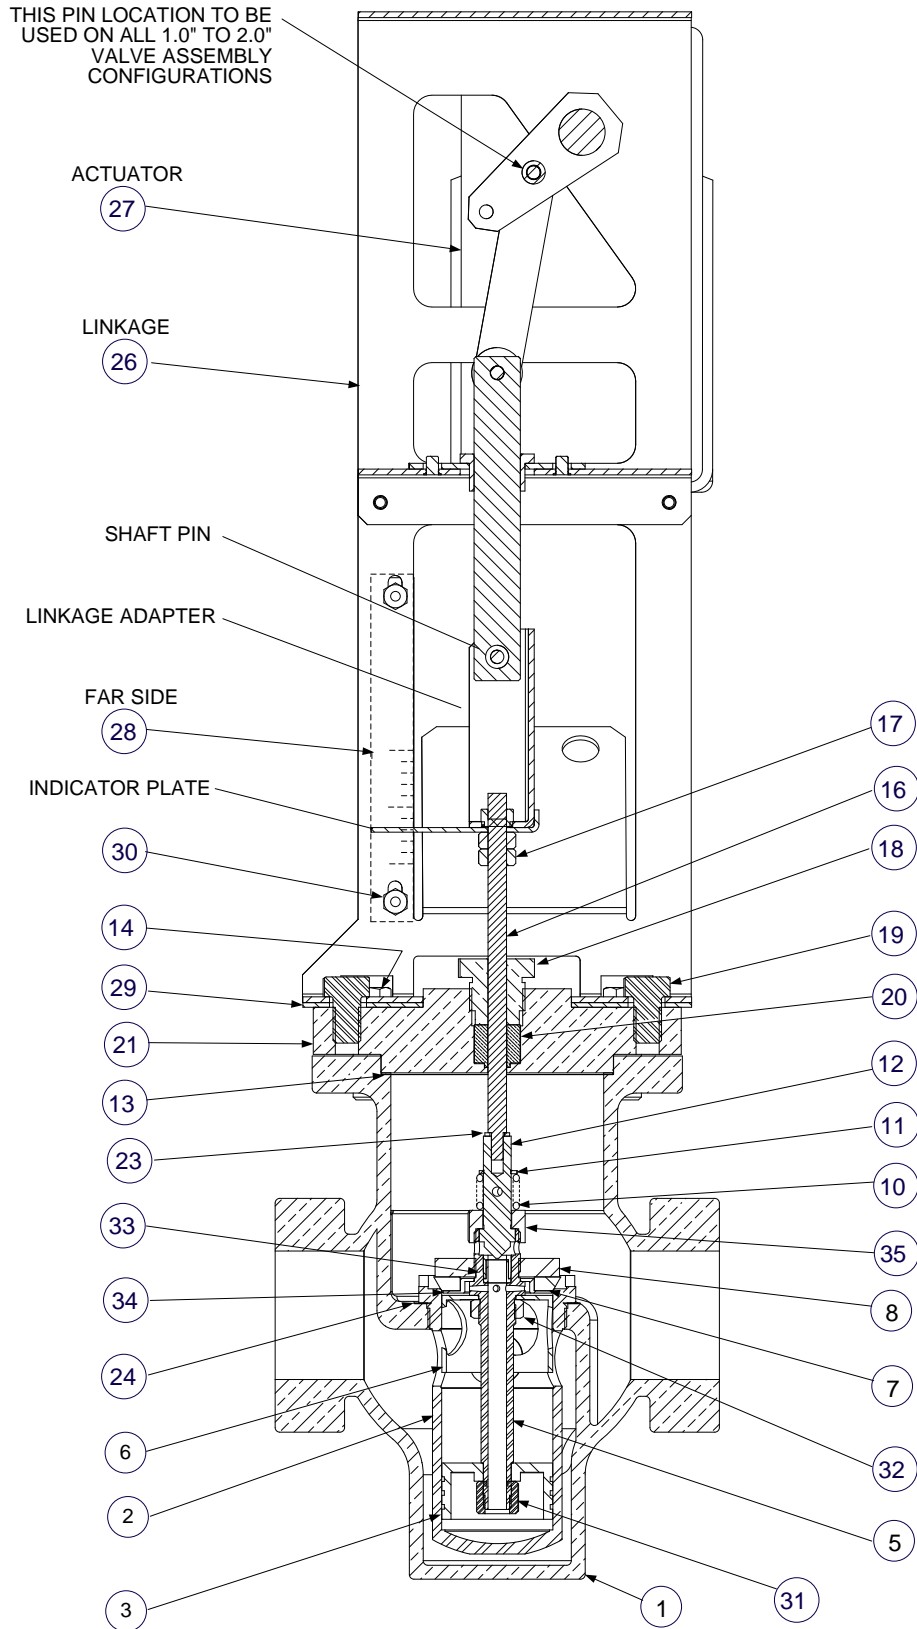
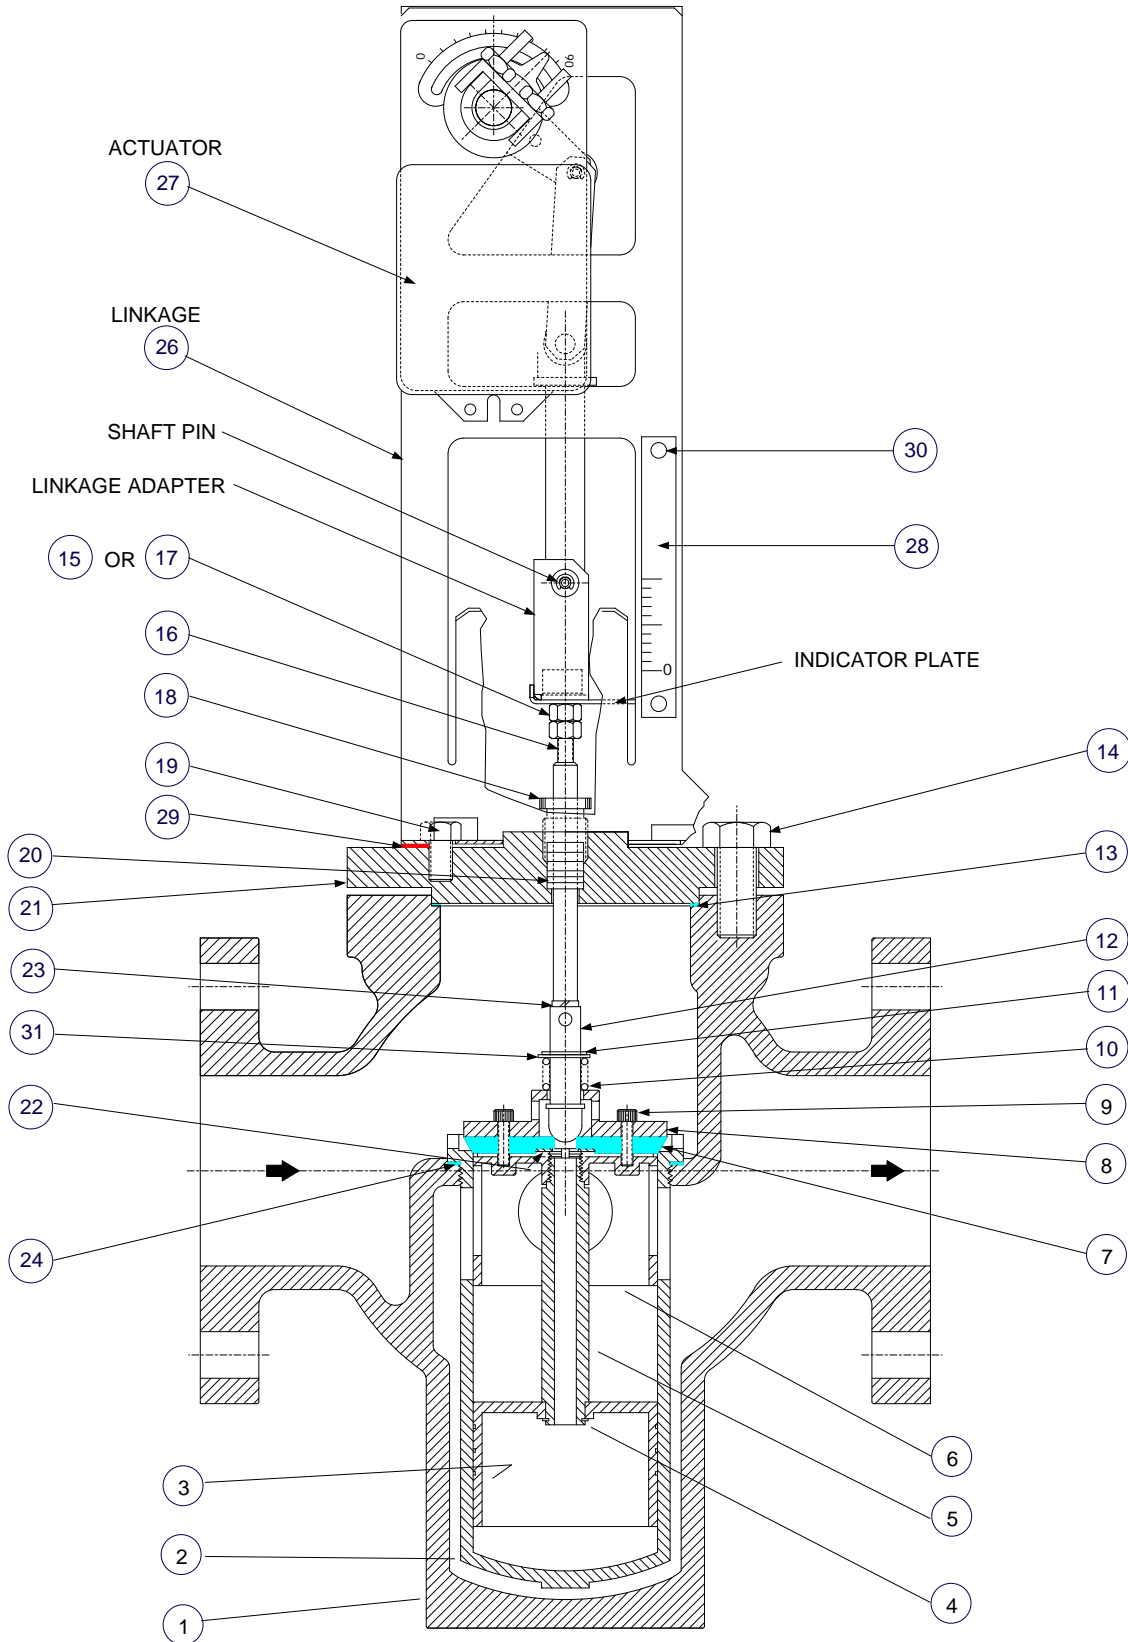

Figure 8-1. Valve Assemblies, Type CXT-E (Sizes 1.00" To 2.00")
Figure 8-2. Valve Assemblies, Type CXT-E (Sizes 2.50" To 4.00")
Refer to Figure 8-1, or Figure 8-2 and proceed as follows:
- 3) Completely remove the Actuator (27) and Linkage Assembly (26) from the Valve Body as described in steps CM1 through CM5.
- 4) Refer to Figure 8-1 or Figure 8-2. It is strongly recommended that disassembly of the Valve be limited to only the steps necessary to restore the Valve to proper operation. However, the following steps cover complete disassembly, if necessary. When performing Valve disassembly, USE EXTREME CARE not to mar or scratch any surfaces. The following steps assume that the Actuator and Linkage Assemblies have already been removed from the Valve Body.
- 7) For Control Valves, 1-inch through 2-inch (Figure 8-1), disassemble the Shaft/Seat/Piston assembly in the following order:
- a) Lock Washer (23)
- b) Retaining Ring (11)
- c) Pilot Spring (10)
- d) Valve Stem Retaining Nut (35)
- e) Lower Shaft (16) and Valve Stem (12)
- f) Retaining Disc (8)
- g) Disc Seat (7)
- h) Seat Retainer (34)
- i) Valve Plug Shaft (5)
- 10) CLEAN ALL PARTS THOROUGHLY. ALL DIRT AND/OR SCALE MUST BE REMOVED from the outer surfaces of the Valve Plug Shaft (5) (Figure 8-1) or the Top Piston (6) and Bottom Piston (3) (Figure 8-2) and from the surface of the Valve Stem (12).
- 11) Inspect the Valve Stem (12). If it is damaged or it does not seat properly on the Valve Seat (7), or does not move freely in the Valve Seat Retaining Disc (8), the Valve Stem (12), Pilot Spring Retainer (11) and Pilot Spring (10) must be replaced.
- 12) Inspect the outer surfaces of the Valve Plug (5) or the Top Piston (6) and Bottom Piston (3). If they are scored or damaged so that they will not move freely up and down in the Seat Cage (2), the Valve Plug or Pistons must be replaced. Also see Step CM32.
- 13) Inspect the Valve Seat (7). If it is worn and does not seat properly with the Seat Cage (2), (or Valve Stem (12) for 2.5 to 4 inch Valves), it must be replaced.
- 14) THOROUGHLY clean and inspect the seating and inner surfaces of the Seat Cage (2). If the seat properly, or if the inner surfaces of the Cage are scored or damaged so that the Valve Plug (5) or Pistons (3) and (6) will not move up and down freely, the Cage (2) must be replaced.
Refer to Figure 8-1 or Figure 8-2 when performing the following procedures.
- 1) If the Seat Cage has been removed, place a NEW Seat Cage Gasket (24) on the seating surface of the Valve Body. Next, replace the Seat Cage (2) into the Valve Body (1), using the tool described in Step CM29. Make the Seat Cage tight.
- 2) If disassembled or being replaced, reassemble the Top Piston (6) and Bottom Piston (3) onto the Valve Plug Shaft (5), using the Top Piston Retaining Nut (46) (1-inch through 2-inch Valves), and Bottom Piston Retaining Nut (50) or Bottom Piston Retaining Ring (4).
- 3) For Control Valves, 1-inch through 2-inch, (Figure 8-1), reassemble the Valve Plug/Seat/Shaft assembly in the following order:
- a) Valve Plug (5)
- b) Seat Retainer (34)
- c) Valve Seat (7)
- d) Retaining Disc (8)
- e) Valve Stem (12) and Lower Shaft (16)
- f) Valve Stem Retaining Nut (35)
- g) Pilot Spring (10)
- h) Pilot Spring Retaining Clip (3)